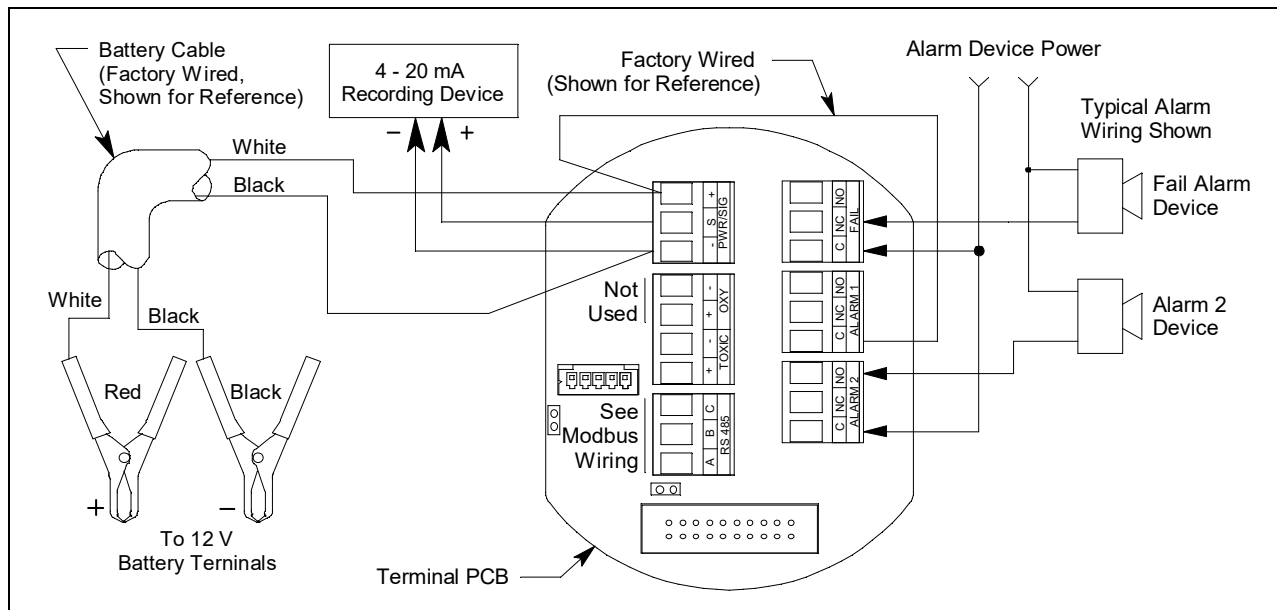

Figure 10: Rig Monitor Field Wiring
10. Connect the leads from the external alarm to the appropriate terminals on the appropriate relay terminal strip as shown in Figure 10 to obtain the desired operation.
6. Locate the 4-20 mA out terminals on the power/signal terminal strip. See Figure 10 to assist you in locating the 4-20 mA out terminals. They are labeled "S" and "-".
10. Connect the leads from the recording device to the 4-20 mA out terminal strip as shown in Figure 10. When connecting to the - terminal, take care to maintain the existing factory wiring to the - terminal.